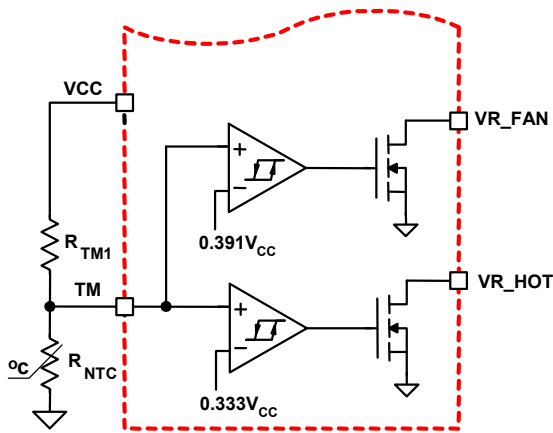
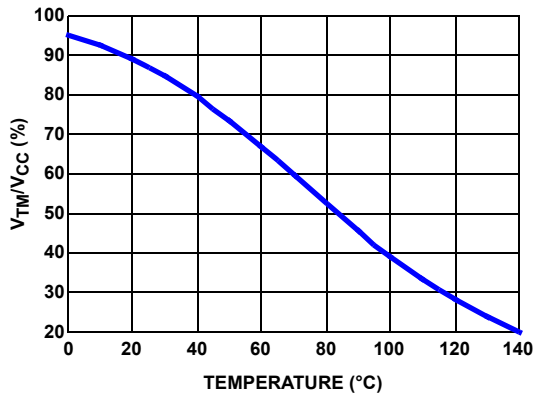

FIGURE 14. BLOCK DIAGRAM OF THERMAL MONITORING FUNCTION
FIGURE 15. THE RATIO OF TM VOLTAGE TO NTC TEMPERATURE WITH RECOMMENDED PARTS
The diagram of the thermal monitoring function block is shown in Figure 14. One NTC resistor should be placed close to the power stage of the voltage regulator to sense the operational temperature, and one pull-up resistor is needed to form the voltage divider for TM pin. The NTC thermistor should be placed next to the current sense element of a phase that will remain active when $\text{PSI}\#$ is asserted low. As the temperature of the power stage increases, the resistance of the NTC will reduce, resulting in the reduced voltage at the TM pin. Figure 15 shows the TM voltage over temperature for a typical design with a recommended $6.8\text{k}\Omega$ NTC (P/N: NTHS0805N02N6801 from Vishay) and $1\text{k}\Omega$ resistor RTM1. We recommend using these resistors for accurate temperature compensation.
Based on the VCC voltage, ISL6336, ISL6336A converts the TM pin voltage to a 6-bit digital signal for temperature compensation. With the non-linear A/D converter of ISL6336, ISL6336A, the TM digital signal is linearly proportional to the NTC temperature. For accurate temperature compensation, the ratio of the TM voltage to the NTC temperature of the practical design should be similar to that in Figure 15.
1. Properly choose the voltage divider for TM pin to match the TM voltage vs temperature curve with the recommended curve in Figure 15.